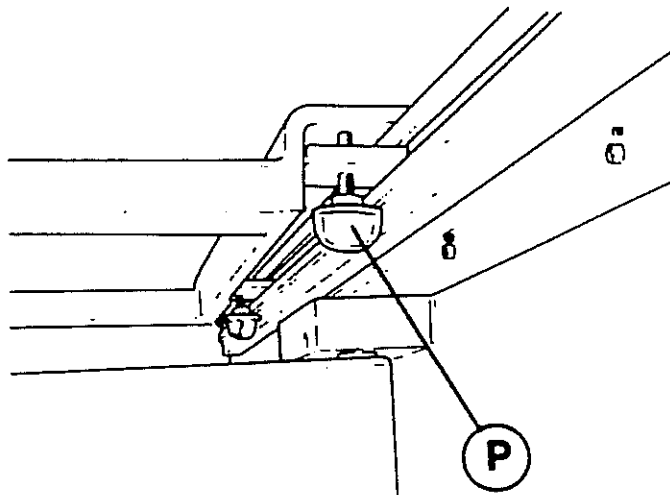

Fig.42
- Turn panel 90° so that the trimmed side (A fig.42) rests against the aluminium fence, then carry out cut (E).